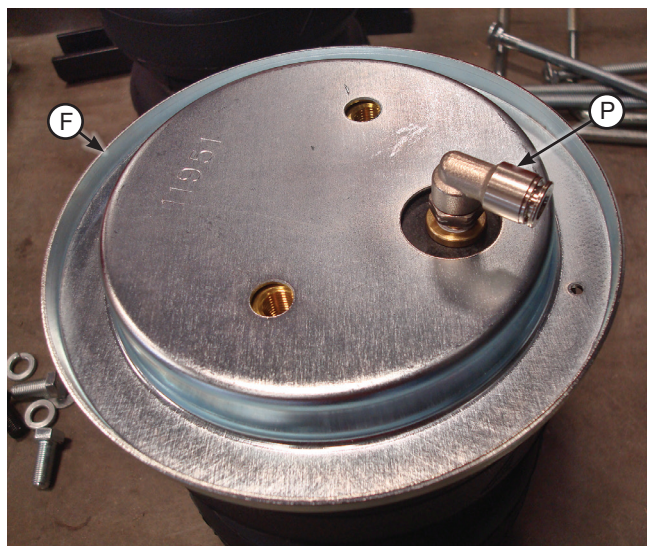

Fig. 7
1. Set a roll plate (F) on top of the air spring (E). The radiused, or rounded, edge of the roll plate will be toward the air spring so that it is seated inside the roll plate (Fig. 7). Install the 90-degree swivel elbow fitting (P) into the top of the air spring, finger tight plus 1 1/2 turns.